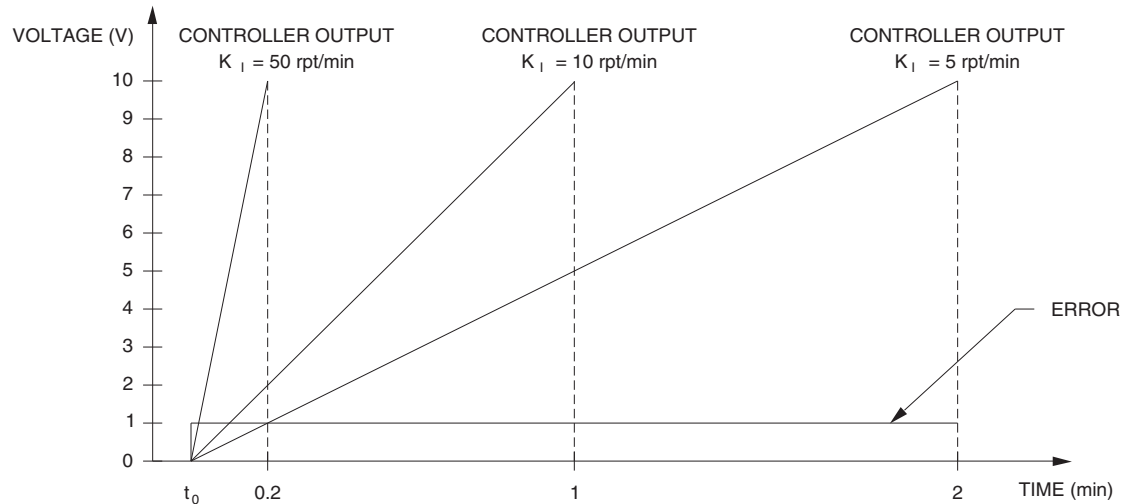

Figure 5-3. Output signal of an integral controller in the open-loop mode when the error changes suddenly.
Figure 5-3 shows the output signal of an integral controller for different integral gain settings when the error changes suddenly. The controller is in the open-loop mode. The integral action causes the error signal to be transformed into a gradually changing signal at the controller output. The greater the integral gain K_i , the greater the rate of change of the controller output.
- With a gain of 5 rpt/min, the 1.0-V error magnitude is duplicated 5 times in 1 min. This means the controller output will be 5.0 V after 1 min (see Figure 5-3);